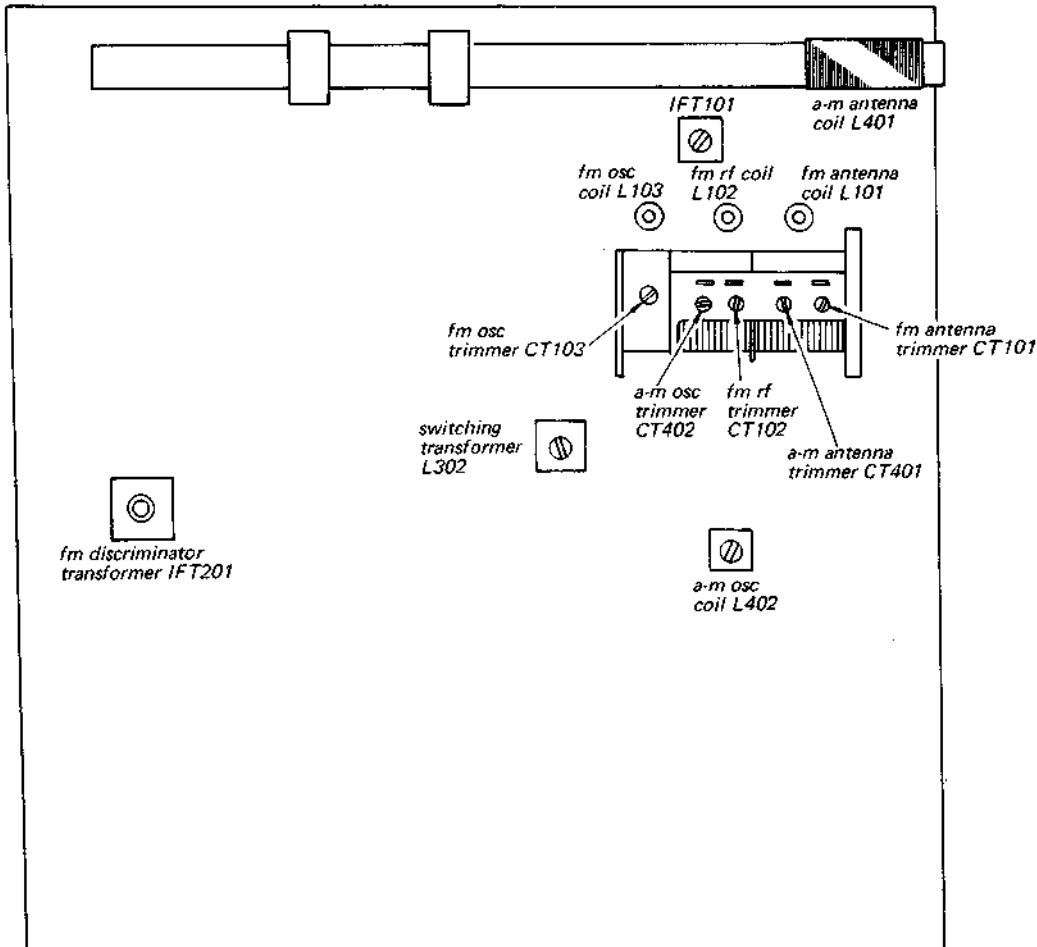

Fig. 3-11. Adjustment parts location
- Turn the top core (secondary side) of discriminator transformer IFT201 (see Fig. 3-11) to obtain a minimum indication on the oscilloscope with an alignment tool as shown in Fig. 3-6.
- Turn the core of fm IFT101 and the bottom core (primary side) of discriminator transformer IFT-201 (see Fig. 3-11) to obtain the maximum output.
1. Precisely tune the receiver to the carrier frequency of stereo signal generator, then turn the top core of switching transformer L302 (see Fig. 3-11) to obtain maximum output at the left channel. Note that this adjustment has a close relationship with stereo distortion.